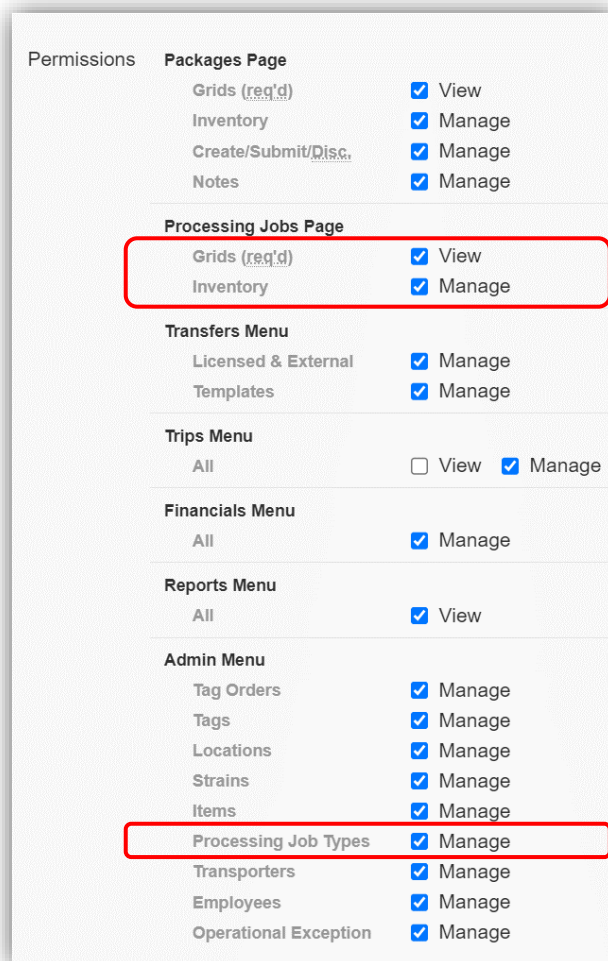

Figure 3: Assign Processing Jobs permissions
- The user should now see the Edit Employees action window. Here, assign the necessary Processing Jobs permissions to the user to view or manage by checking the box next to one or all the following permissions – **see Figure 3.**